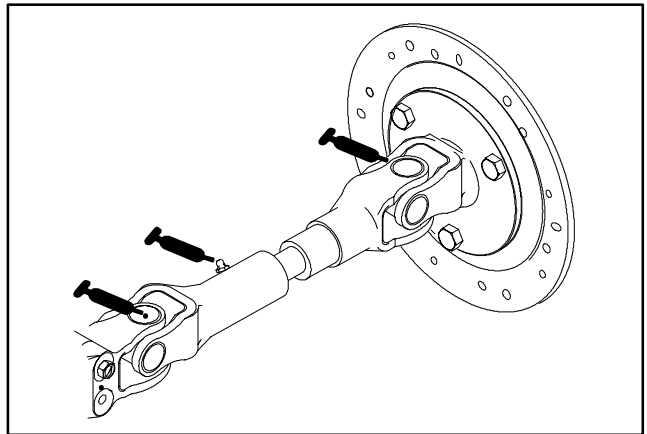
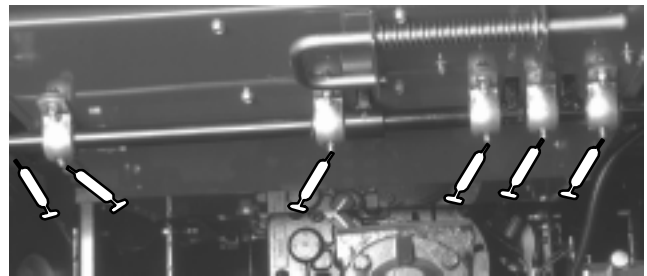

Figure 14
Figure 15
Steering cylinder ball joint (2), Rear axle tie rod (2), Rear axle pivot (1) Rear Spindle Shafts (2) (Fig. 13); Intermediate Drive Shaft (3) (Fig. 14); Pedal Pivots (5), Traction pedal (In square tube under floor plate) (1) (Fig. 15) and Lift arm pivot (2) (Fig. 16).